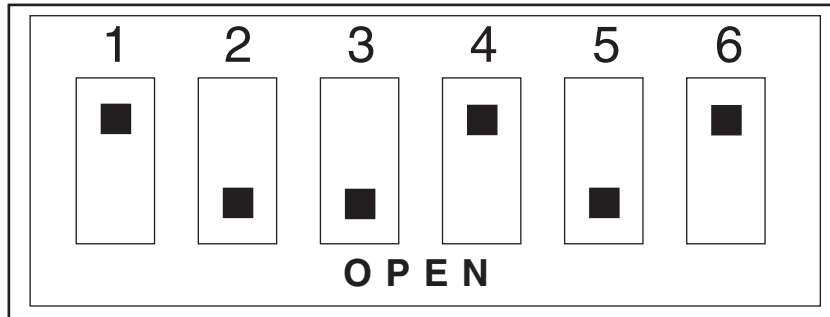

Figure 8: DIP Switches
A six (6) position dip switch (see Figure 8) has been installed on the processor card of the Cahn C-34/35 to control configuration of the serial I/O port. This switch allows the user to select the baud rate, word length, number of stop bits and operating mode of the balance. The red dip switch is in the lower right corner of the card. DO NOT REMOVE CARD to change dip switch positions. Change the dip switch setting only when the poser to the balance is OFF. After setting the switches, replace the cover immediately to prevent damage to the instrument.